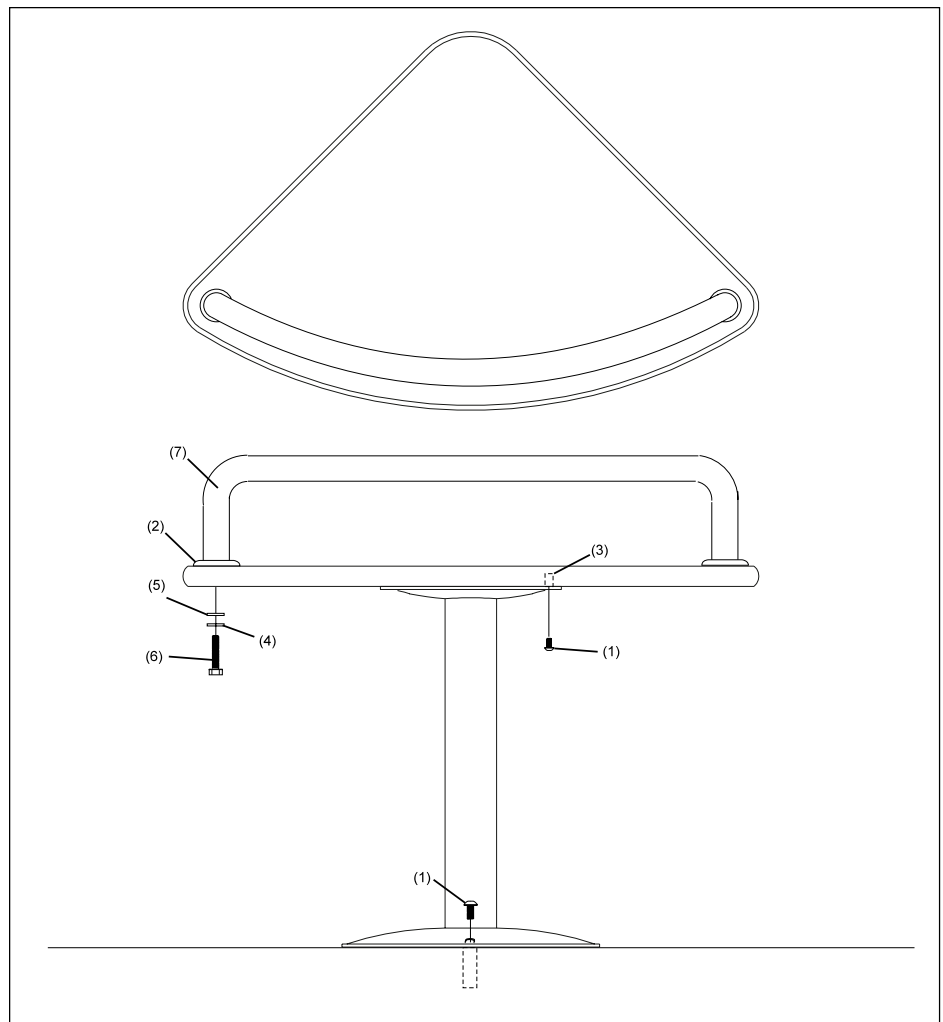

Figure 30. Secure the Triangle Top to the Leg Assembly
1. On the bottom of the table top are two partially drilled holes. These partially drilled holes are the points where attaching holes for the leaning rail are to be drilled. Through drill with a 1/4" diameter drill bit at these two locations. Refer to *Figure 30*.
3. Slide a leaning rail cup on each leg of the rail. Align the threaded inserts in the leaning rail with the two holes drilled into the table top and secure the leaning rail with two each 3/8-16 x 2-1/2" cap screws, 3/8" lockwashers and 3/8" flat washers. Refer to *Figure 30*.
2. Secure the table base to the floor with four 3/8-16 x 3/4" button cap screws. Refer *Figure 30*.